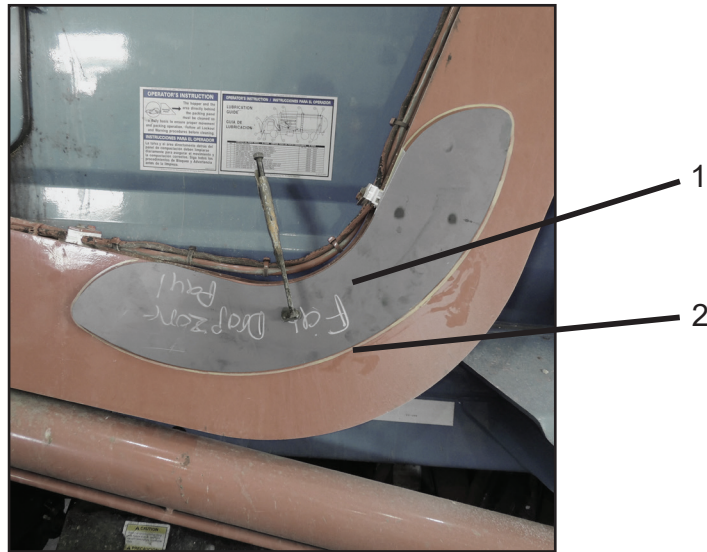

Figure 3
7. Temporarily place and clamp one of the doubler plates (Figure 3, Item 1) on the outside face of the inner radius of the arm and mark a general outline of the doubler plate (Figure 3, Item 2) on the arm.